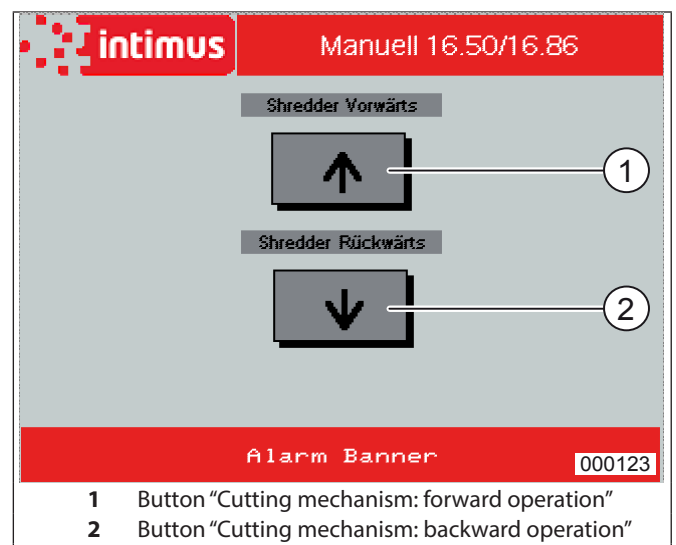

fig. 11 „Manual operation” screen
“Manual operation” main screen (fig. 11)
C) Eject into plastic sack without tying off (for small particles) (fig. 11 and 13)